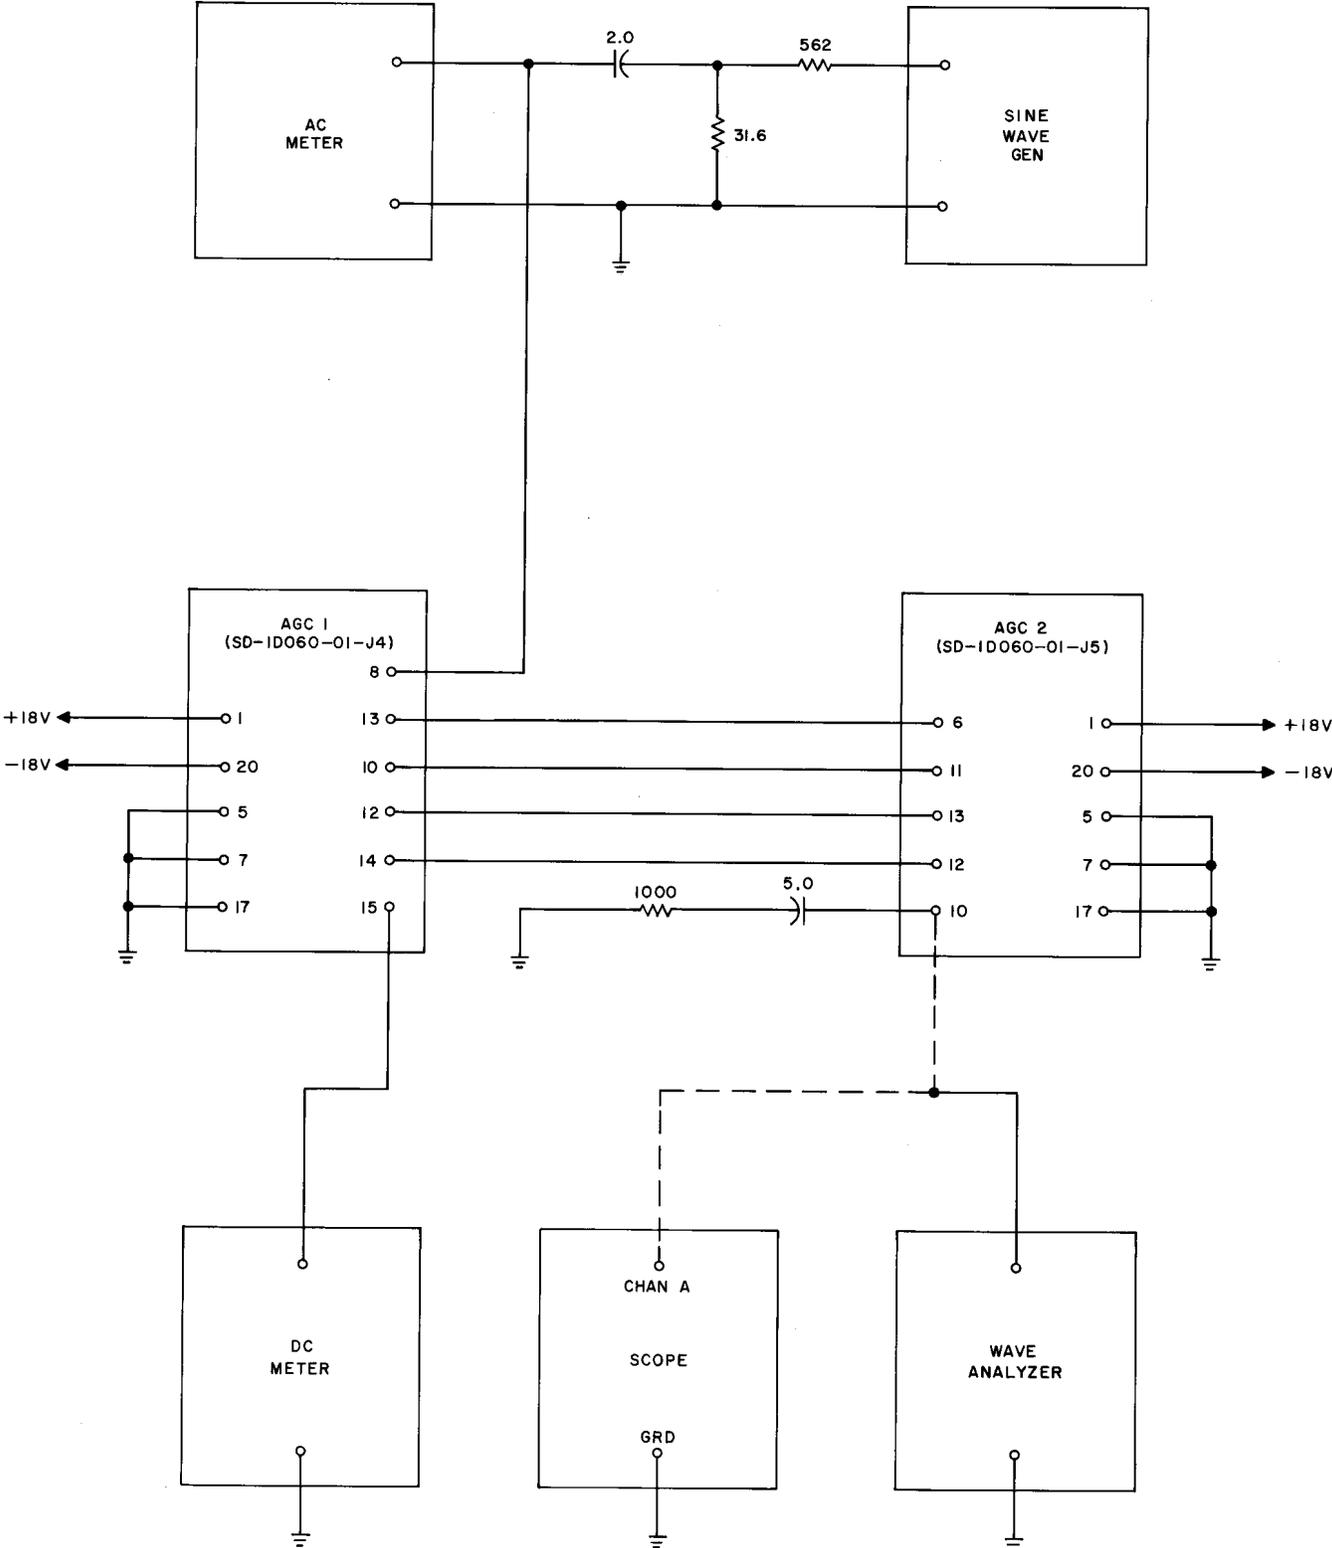

Fig. 14A — Automatic Gain Control 1 Test Circuit
- (1) The gain control test of the AGC1 circuit pack is made in conjunction with the AGC2 circuit pack. Connect the circuit packs as in the suggested test circuit shown in Fig. 14A, with the scope connected to terminal 10 of the AGC2 circuit pack. Connect power to both circuit packs as specified in 4.11A (1).
- (2) Connect the sine-wave generator in series with a 2.0 μf capacitor to terminal 8 of the AGC1 circuit pack. Set the frequency of the generator to 1800 Hz (± 5 percent). Set the output level of the generator to 0.
- (3) Slowly increase the output level of the generator until the carrier detector voltage on terminal 15 of the AGC1 circuit pack switches to +6.5 (± 0.8 Vdc. The input voltage between terminal 8 and ground of the AGC1 circuit pack shall be 13.5 $\begin{matrix} (+0.9) \\ (-0.8) \end{matrix}$ mV rms. Record the input level.
- (4) The output waveform on terminal 10 of the AGC2 circuit pack shall be a sine wave of 2.5 (± 0.3) Vac peak-to-peak amplitude.
- (5) Increase the input signal level between terminal 8 and ground of the AGC1 circuit pack to 78 (± 1) mV rms. The output level on terminal 10 of the AGC2 circuit pack shall be a sine wave of 2.5 $\begin{matrix} (+0.35) \\ (-0.30) \end{matrix}$ Vac peak-to-peak amplitude. The voltage on terminal 15 of the AGC1 circuit pack shall be +6.5 (± 0.8) Vdc.
- (6) Increase the input signal level between terminal 8 and ground of the AGC1 circuit pack to 450 (± 5) mV rms. The output level on
(1) The distortion measurement of the AGC1 circuit pack is made in conjunction with the AGC2 circuit pack. Connect the circuit packs as in the suggested test circuit shown in Fig. 14A, with the wave analyzer connected to terminal 10 of the AGC2 circuit pack. Apply power to both circuit packs as in 4.11A (1).
(2) With the wave analyzer connected to terminal 10 of the AGC2 circuit pack, apply a 78 (± 1) mV rms signal at 600 Hz (± 5 percent) to input terminal 8 of the AGC1 circuit pack. Tune the wave analyzer to obtain a peak reading on the meter at the fundamental frequency of 600 Hz. Set the meter indication to 0 dB by adjusting the wave analyzer reference adjustment.
(3) Tune the wave analyzer for a peak meter reading in the vicinity of the second harmonic frequency of 1200 Hz. The meter should indicate -30 dB or lower at the second harmonic frequency.